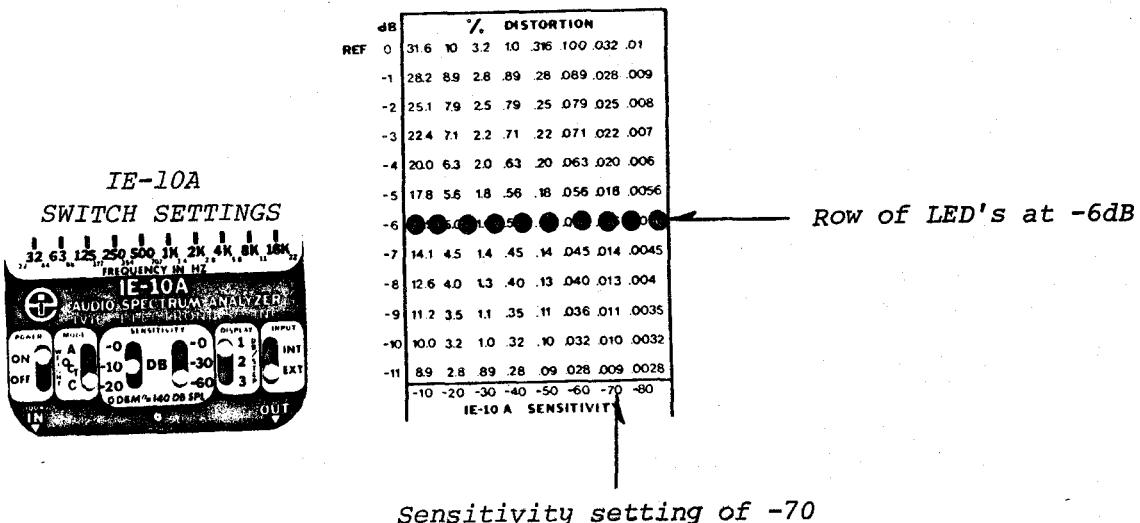

Figure 10
Begin to increase IE-10A SENSITIVITY in 10 dB steps until the row of LEDs rise from the bottom of the screen to a level inside the distortion overlay measurement window. See figure 10.
- 2) find the same total SENSITIVITY number along the baseline of the IE-10A distortion overlay, labeled IE-10A SENSITIVITY. (Figure 10). The column of numbers located above the SENSITIVITY setting on the distortion overlay represent all the possible % DISTORTION readings for that particular decade of SENSITIVITY.